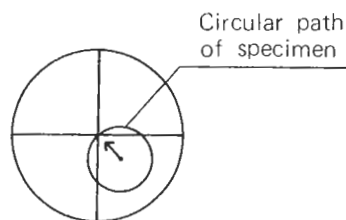

Fig. 3
4. Insert the footboard into the wooden case (Fig. 3), and clamp with bottom screw.
3. Rotate the stage, and manipulating the two centering knobs, coincide the center of the cross hairs and the center of the rotation of the specimen. (Fig. 3)